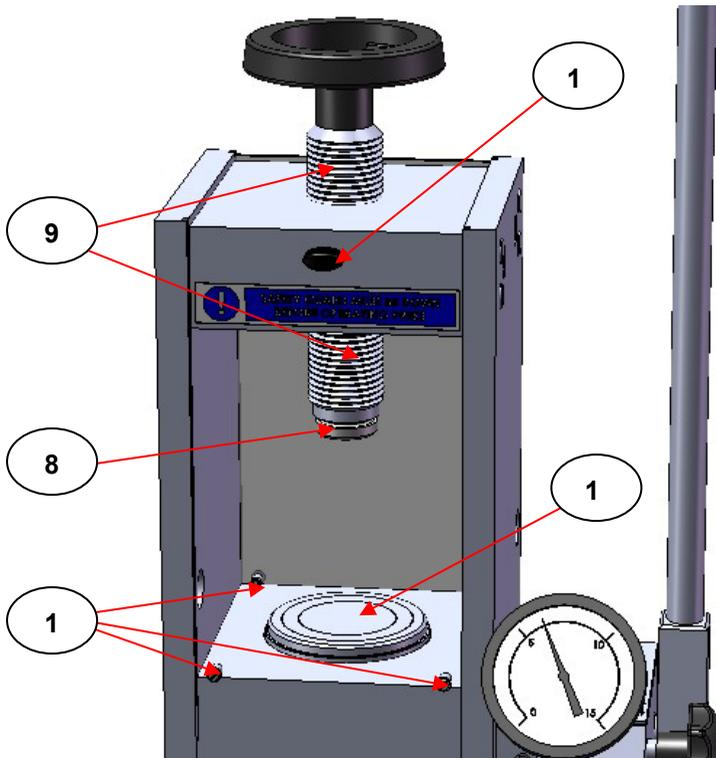
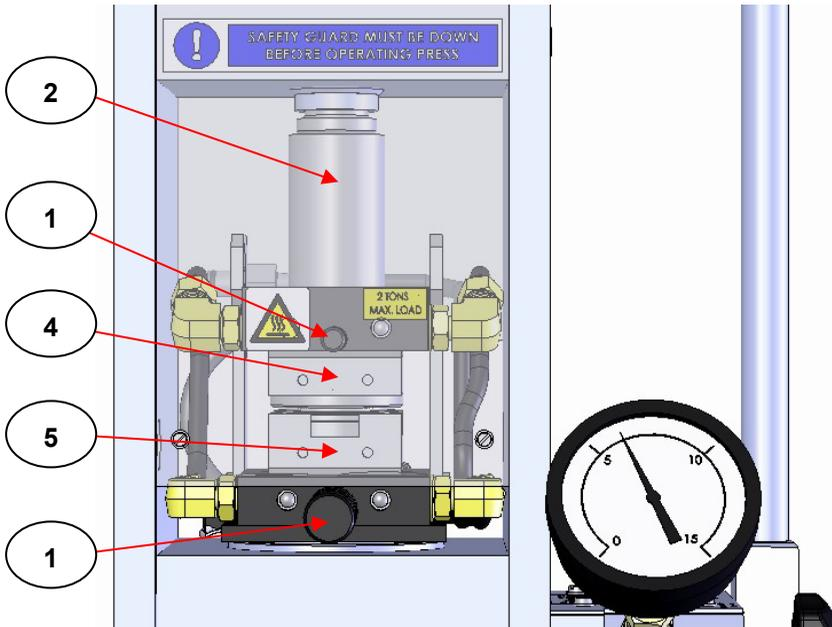

Fig 4. Lead Screw and Top Bolster Pressing Face of the Atlas™ Manual Hydraulic Press
Fig 8. High Temperature Film Maker Accessory Installed into a Manual Hydraulic Press (Sampling Position - Front Guard Closed)
For use of the High Temperature Film Maker Accessory in **any compatible Specac Press**, the top bolster pressing face (8) **MUST** be fitted into the lead screw (9) of the Press. (See **Fig 4.**)
Remove the original **rear** safety guard fitted to the back of the Manual Hydraulic Press. Similar as the front safety guard, the rear guard slides up and down for access to and protection of the pressing area and is closed when the two screw stops (**10**) are resting on the lower edge of the pressing area. (See **Fig 4.**) To change over the rear guard for use of the shortened, modified guard, the two screw stops (**10**) need to be removed (unscrewed) from the original guard to allow it to slide up and completely out of its runner grooves. Use the lifting knob (**11**) by unscrewing it from the original rear guard and affixing it to the shortened, modified guard and then insert this new shortened guard assembly into position into the guard runner grooves at the rear of the Press.
Take the magnetic catch stop to fit the original **front** guard of the Press. Remove the backing paper from the adhesive strip on the magnetic catch stop and stick this surface of the catch to the inside face of the front guard at its bottom edge with the magnetic catch parts facing upwards. Ensure that the magnetic catch stop is also positioned to one side of the front safety guard so that it will not rest on the High Temperature Film Maker Accessory loading handle (**12**) when the Accessory is installed in the Press and the front guard is down. (See **Fig 8.**)
Create an appropriate gap in the Press between the top pressing bolster surface (8) of the lead screw (9) and the lower bolster pressing piston surface (19) by appropriate clockwise or anticlockwise rotation of the lead screw (9) of the Press to accommodate the High Temperature Film Maker Accessory when in the **Sampling Position**. (See Fig 4.) It is necessary for operation of the Accessory to have an appropriate gap between the lead screw top bolster (8) and lower pressing piston (19) surfaces that will allow for the overall height of the Accessory with the supplied aluminium cylinder block spacing bar (20) resting on the top cooling block (2) when installed. (See Fig 8.)